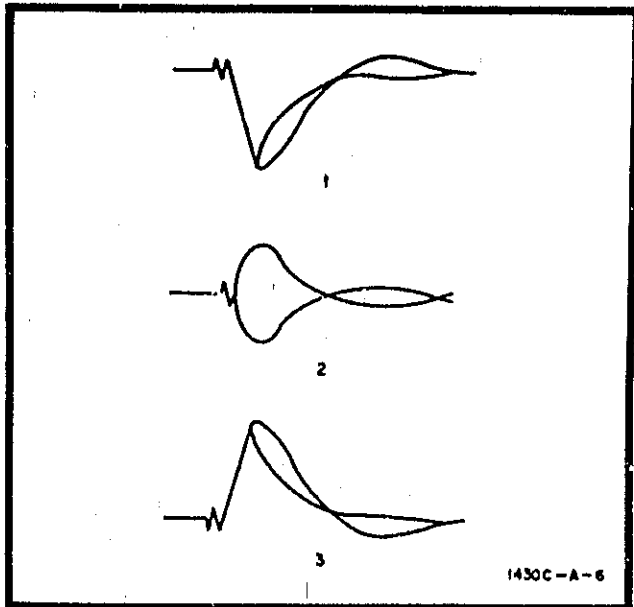

Figure 8-3. Bias Centering Waveforms
8-32. To check the sampling diodes, connect a signal generator to the suspected channel and adjust for a 140-mV rms signal at approximately 450 MHz. Next, short the junction of R128 and R129 to ground and observe the waveform at the emitter of Q102. Adjust Bias Centering Adj R122 through its range to be sure that all three waveforms can be obtained as shown in figure 8-3. If all three waveforms cannot be obtained, then one or more of the sampling diodes is faulty. If only waveform 1 of figure 8-3 can be obtained, then CR105 or CR305 is probably bad. If only waveform 3 can be obtained, then CR106 or CR306 is probably bad. If it is
b. If all waveforms of figure 8-3 are present, place 50-mV 5-usec pulse on base of Q101B input differential emitter follower. With monitor oscilloscope, check for presence of pulse at output of integrated differential amplifier. If signal is present, go to step c. If not, trace signal to see if differential amplifier or differential emitter follower is bad. (Pulse may appear differentiated at output of differential amplifier.)